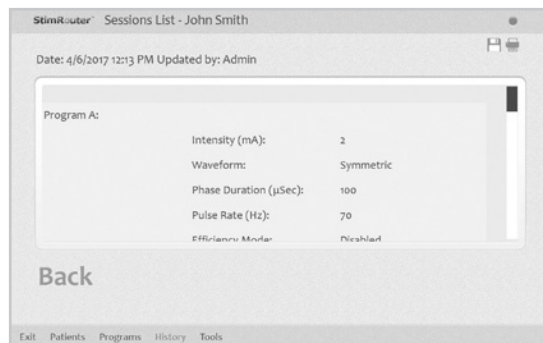

Figure 9-9. Session detail window
3. The session detail will open. See Figure 9-9.